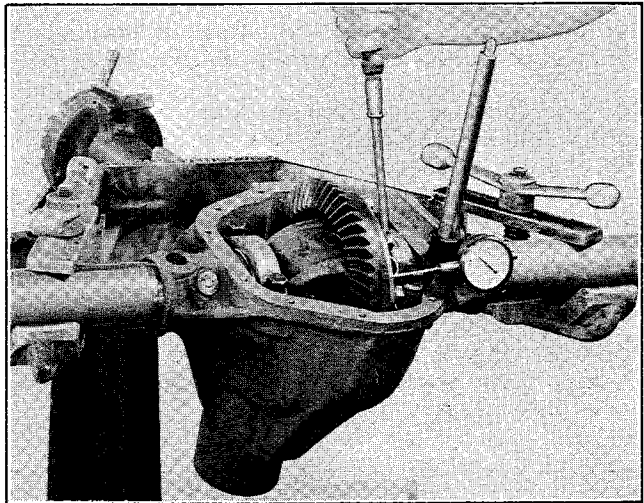
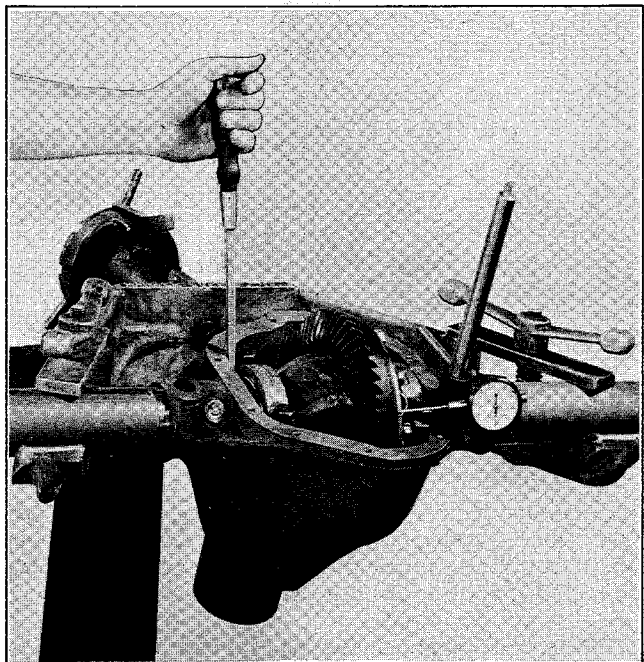

Figure 2-12. Dial Indicator Gage Set Up
Figure 2-13. Dial Indicator Gage Reading
6. Place bearing cups (7) on the bearing cones (8). Make sure parts are clean and free from nubs and burrs. Cups should be clean and free from mutilations.
7. With differential cover side up, place differential case assembly (10) in housing (1).
8. Install differential bearing caps (5) in their correct positions, as noted in Step 4 of disassembly, with bearing cap screws (4) finger tight.
9. Set up dial indicator gage shown in Figure 2-12 with contact point on back of ring gear. With screwdriver blade between bearing cup and housing, pry case assembly as far as possible to one side of housing. Set dial indicator at zero. Shift case assembly to opposite side of housing and record reading. See Figure 2-13. This reading will be the shim pack thickness to be placed between bearing cone assembly (8) and differential case (10) later in the procedure.